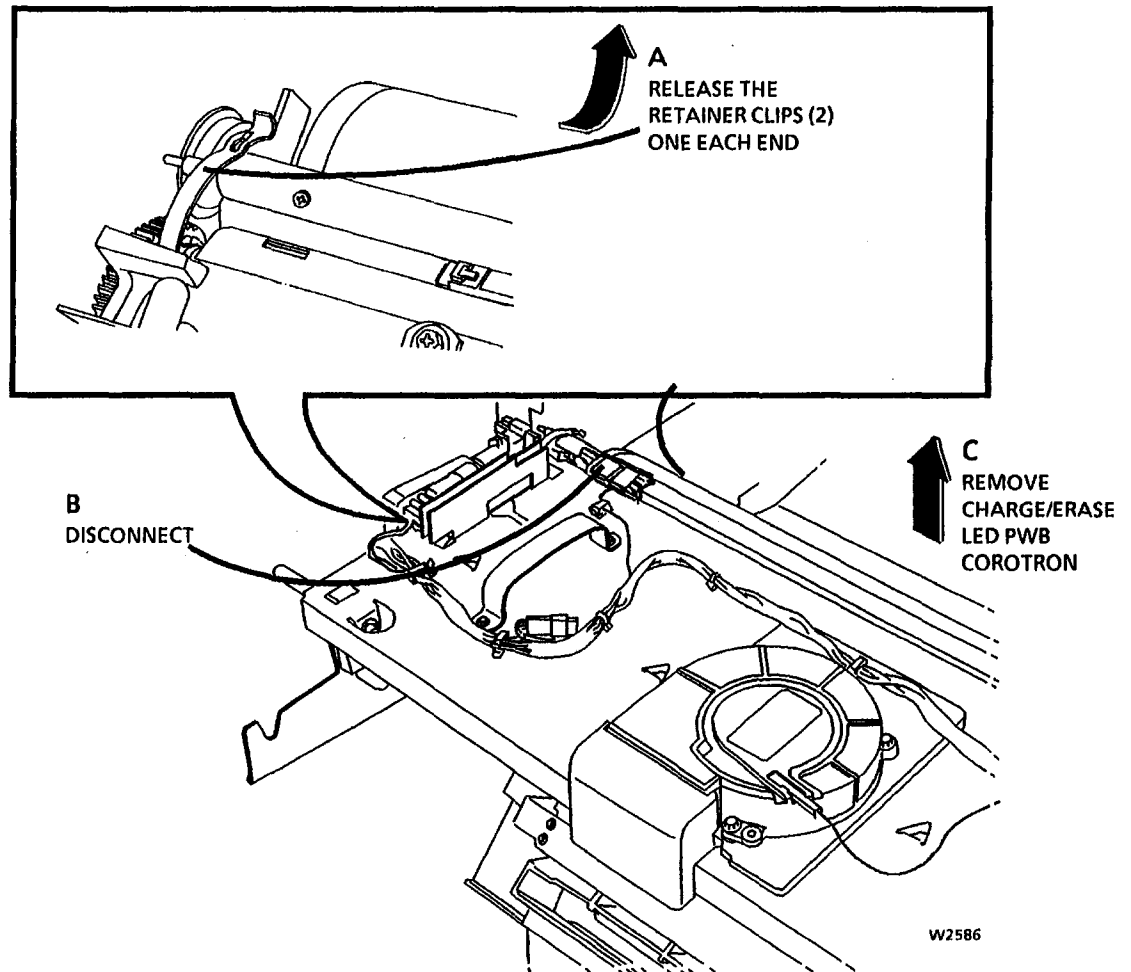

Figure 1. Remove the Charge Corotron/Erase Lamp
3. (Figure 1): Remove the Charge Corotron/Erase LED PWB.